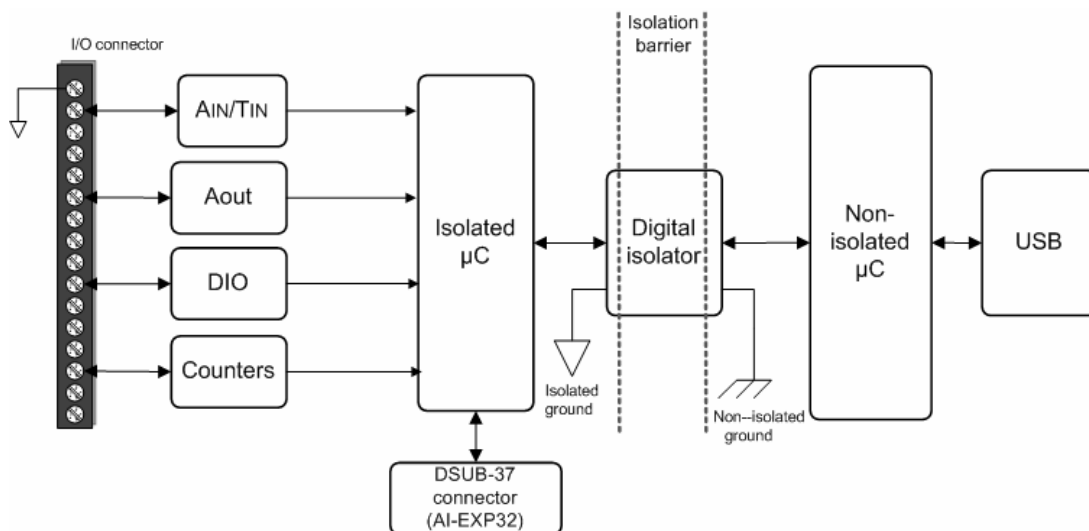

Figure 14. RedLab 2416-4AO input isolation diagram
- All analog measurements are made relative to the isolated ground. See Figure 14 for details.